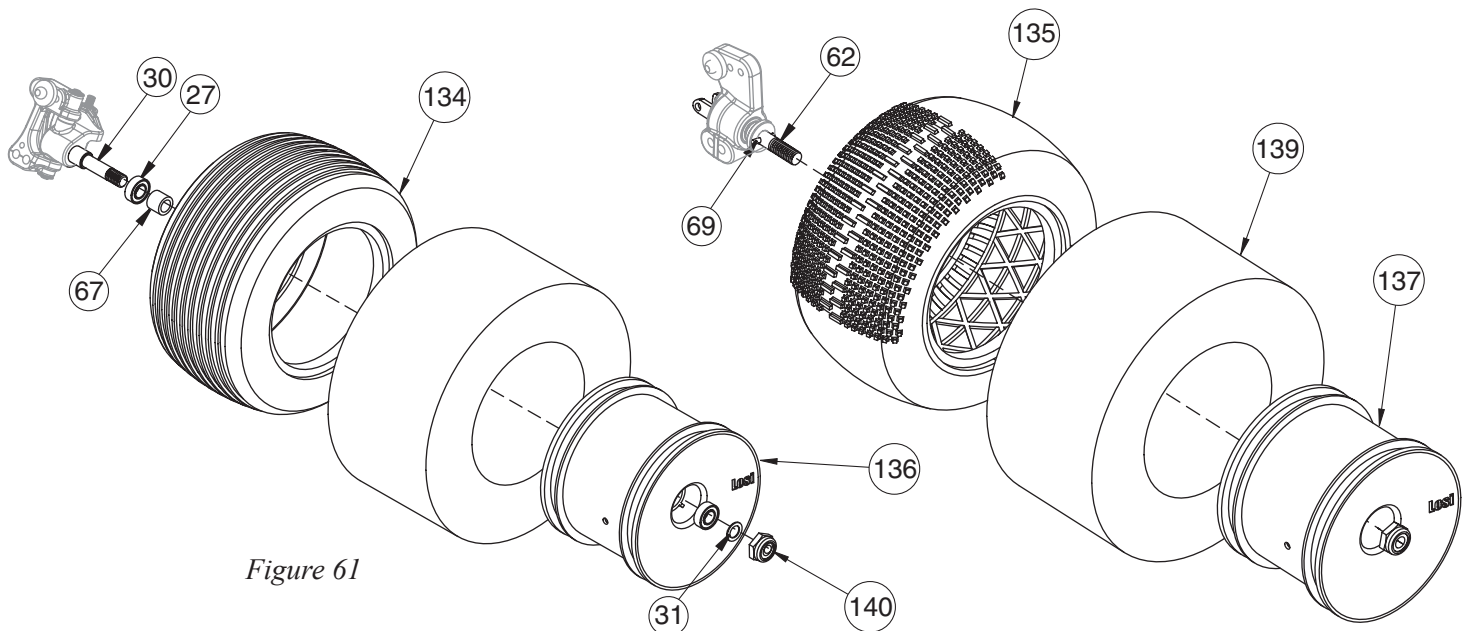

Figure 61
- 5. Install a 3/16" x 3/8" Bearing (27) into the backside of the front Wheel (Teflon seal facing out). Insert a Bearing Spacer (67) into the Wheel from the front side. Capture the Spacer with a second Bearing (Teflon seal facing out as well).
- 6. Install the front Wheels by sliding the front Wheel with Bearings over the front Axle (30) as shown in Figure 61. Place a 3/16" x 3/8" x 0.015" Shim (31) over the Axle against the outside Bearing. Secure the Wheel by threading a 10-32 Locknut (140) onto the Axle and Tightening.
- 7. Mount the rear Wheels to the rear Axles (62) by lining up the Roll Pin (69) in the rear Axle with the groove in the rear Wheel and pushing the Wheel all the way onto the Axle, making sure the Roll Pin is lined up with the slot on the Wheel.